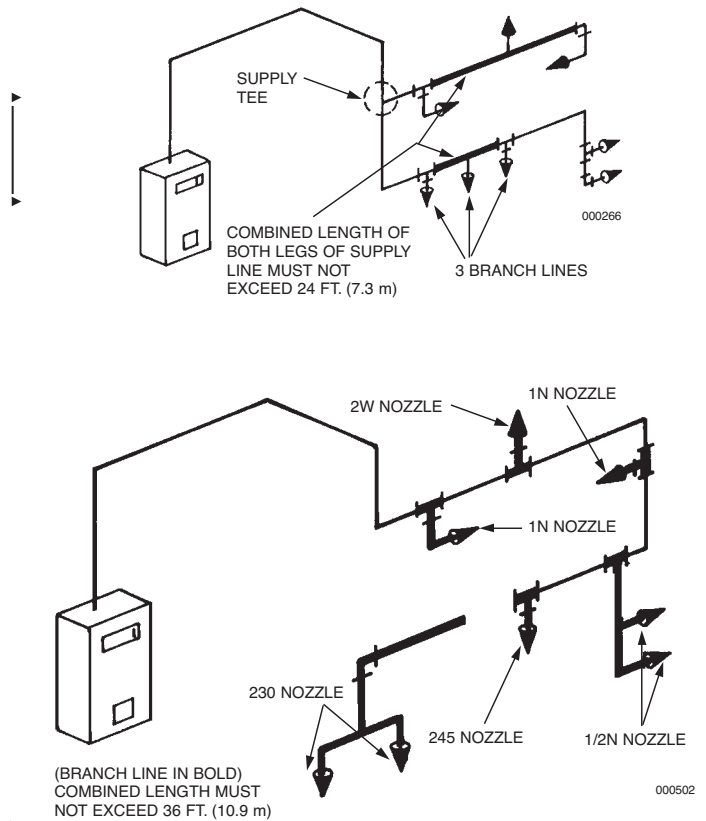

FIGURE 93
1. The maximum length between the start of the first branch line and the start of the last branch line must not exceed 24 ft. (7.3 m). When the supply line is split, the **combined total** of both legs of the supply line (from the start of the first branch line to the start of the last branch line) must not exceed 24 ft. (7.3 m). See Figure 93.
2. The total length of all branch lines must not exceed 36 ft. (10.9 m). See Figure 93.